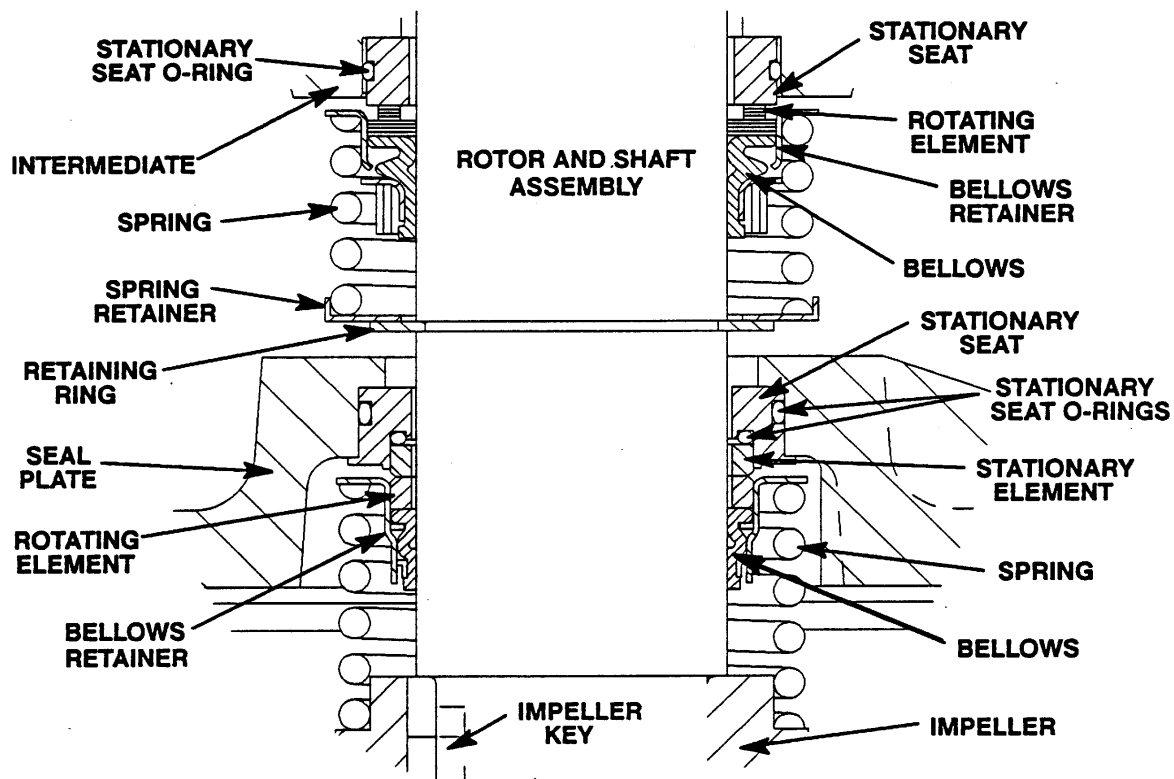

Figure 5. 46512-250 (Lower) And 25271-291 (Upper) Seal Assemblies
Install the shaft seals as illustrated in Figure 5.
Slide the seal spring over the shaft and bellows retainer, and install the spring retainer. Install the seal retaining ring (34). See Figure 5 for proper order of seal assembly.
Unpack the stationary seat, and check that the O-rings are properly installed (see Figure 5). Press the stationary element into the seat, making sure that the grooves in the element engage the lugs on the seat. Apply a **light** coating of oil to the seal plate bore and the outer O-ring. Keep the sealing face dry.
Slide the seal spring over the shaft and bellows retainer. See Figure 5 for proper order of seal assembly.